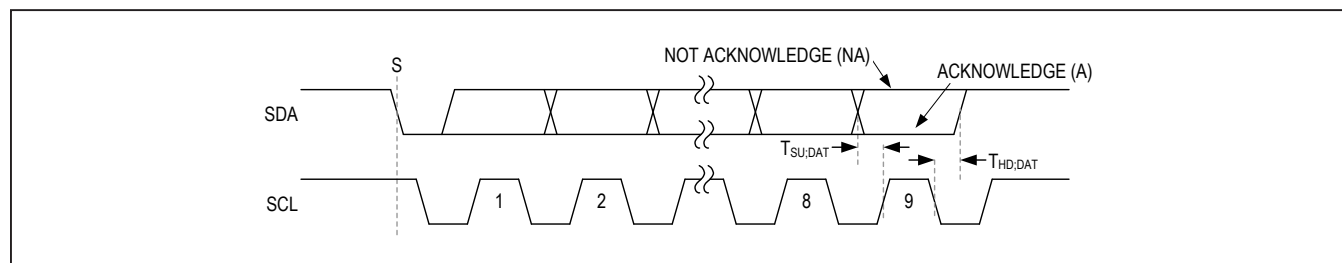

Figure 6. Acknowledge Bit
Both the I2C bus master and the MAX17271 (slave) generate acknowledge bits when receiving data. The acknowledge bit is the last bit of each nine bit data packet. To generate an acknowledge (A), the receiving device must pull SDA low before the rising edge of the acknowledge-related clock pulse (ninth pulse) and keep it low during the high period of the clock pulse. See Figure 6. To generate a not-acknowledge (nA), the receiving device allows SDA to be pulled high before the rising edge of the acknowledge-related clock pulse and leaves it high during the high period of the clock pulse.